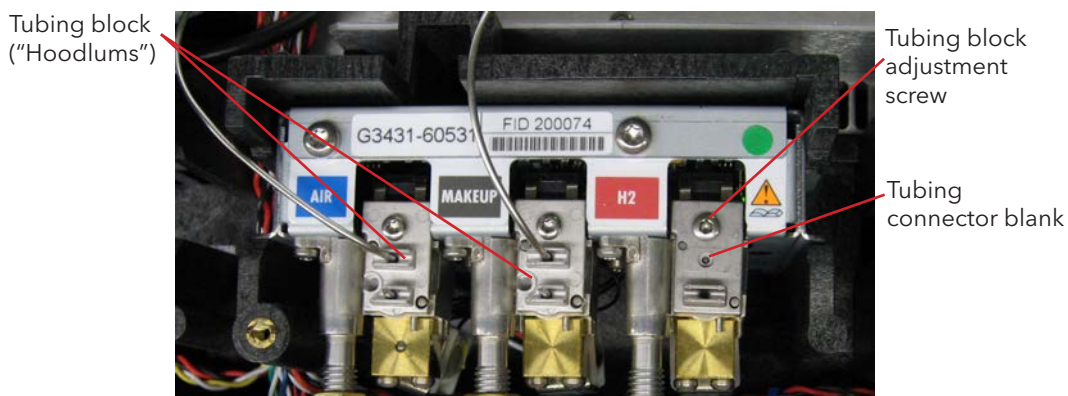

Figure 3.25. Tubing Connector Blanks
- g. Remove the appropriate tubing connector blanks (Figure 3.25) from the EPC module to expose the O-rings and restrictors.